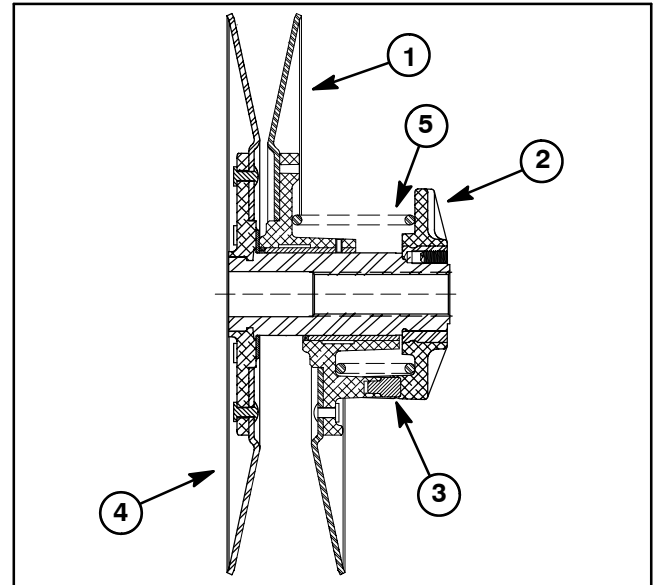

Figure 4
On vehicles with a serial number below 310000000, three (3) sets of buttons on the driven clutch moveable sheave provide a low friction surface on which the moveable sheave can slide on the ramp of the fixed cam (Fig. 4).